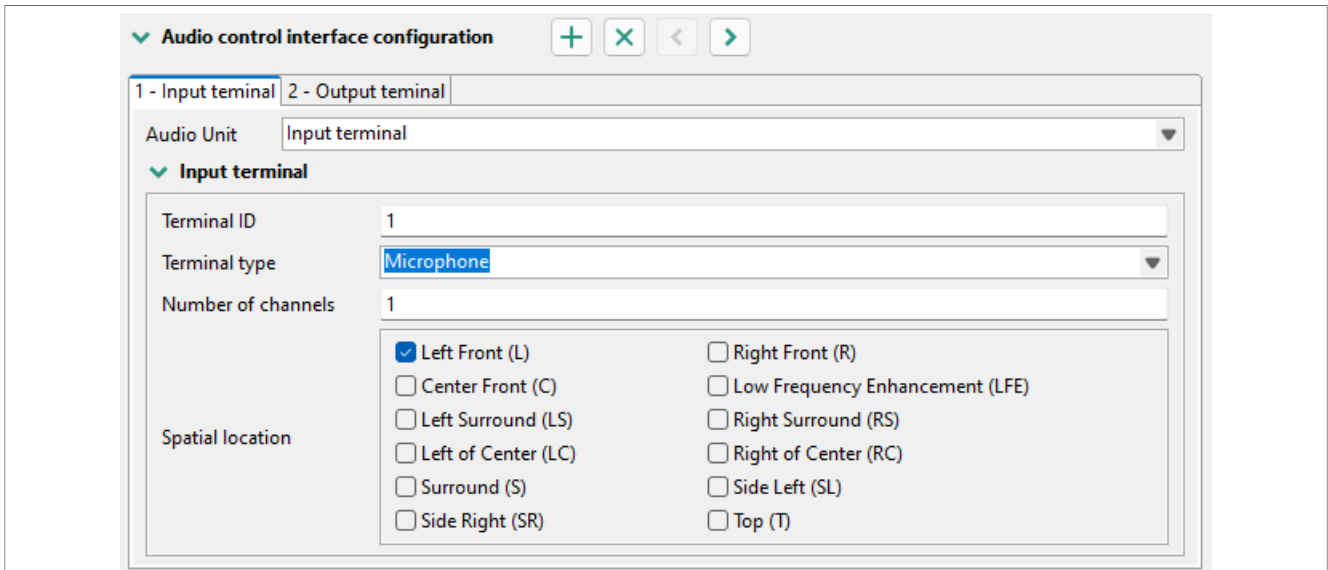
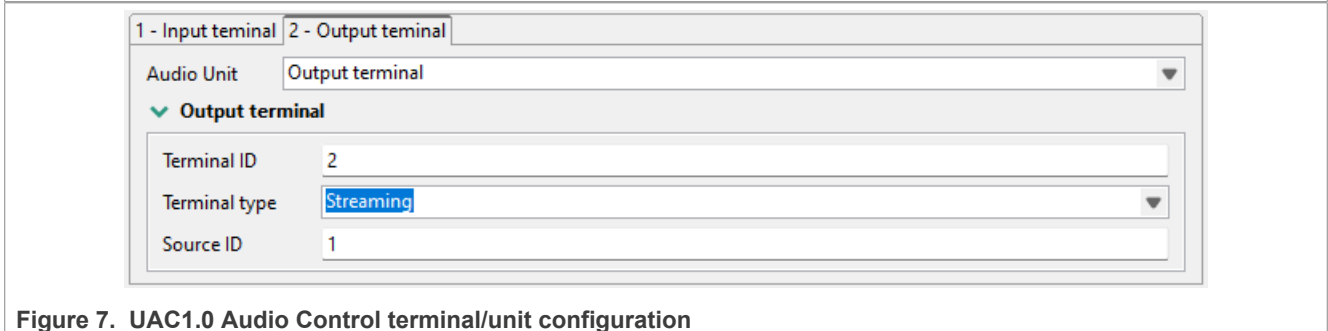

Figure 6. UAC1.0 Audio Control terminal/unit configuration
Figure 7. UAC1.0 Audio Control terminal/unit configuration
9. An Input Terminal (IT) and Output Terminal (OT) are needed in an Audio Control interface. Create these terminals under the “Audio control interface configuration” block.
11. In the Output Terminal configuration block, set “Source ID” to the Input Terminal ID to implement the topology shown in Figure 6 and Figure 7. The Audio Control interface settings are now complete.